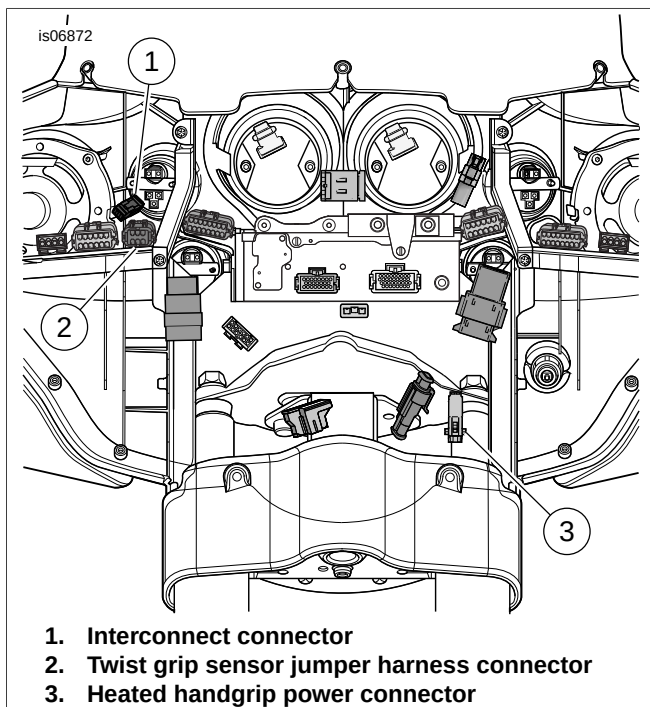

Figure 5. Fairing Wiring (FLH Models)
See Figure 5. Handgrip power connector (3) has a cap that must be removed before connecting to vehicle wiring.
2. See Figure 5. Connect power connector half from left handgrip to handgrip power connector (3).
3. Connect (1) to left side handgrip connector.
- Connect TGS main harness connector from jumper harness to connector (2).